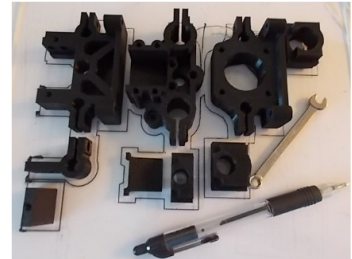

Figure 2. 3D printed plastic parts
**Introduction:** Welcome to the world of open-source electromechanical fluidics. We hope you find these instructions useful. Figure 1 shows the fully assembled syringe pump. The syringe pump is composed of a number of inter-relating parts. Many of the parts are plastic pieces that are fabricated by 3D printing (Figure 2). Other parts are
**Part 2. Mechanicals:** Figure 2 shows the 3D printed plastic parts that are used to build the syringe pump. From the top left, the parts are the syringe mount, carriage body, motor mount and 10 mL syringe holder. The second row contains the end stop, outer wedge, and one and three mL syringe mounts. The item on the third row is the inner wedge. The syringe pump is built from three assemblies, the carriage, motor mount and syringe mount. Each of these is described below.
The syringe barrel is held in our syringe pump by the plastic syringe holder. This is illustrated in Figure 10. As shown in Figure 2, the syringe barrel and its holder fit into the syringe mount while the plunger is held on the carriage by the stainless steel barrel retaining plate. Before attaching the syringe, loosen the mechanisms on both the barrel and plunger retaining plates. The barrel is held by two wedges on the carriage assembly. The inner wedge has a machine screw that draws it up against the outer wedge, which holds the plunger against the retaining plate. Use a phillips screwdriver to loosen the machine screw and push the wedges back to make room for the syringe plunger.